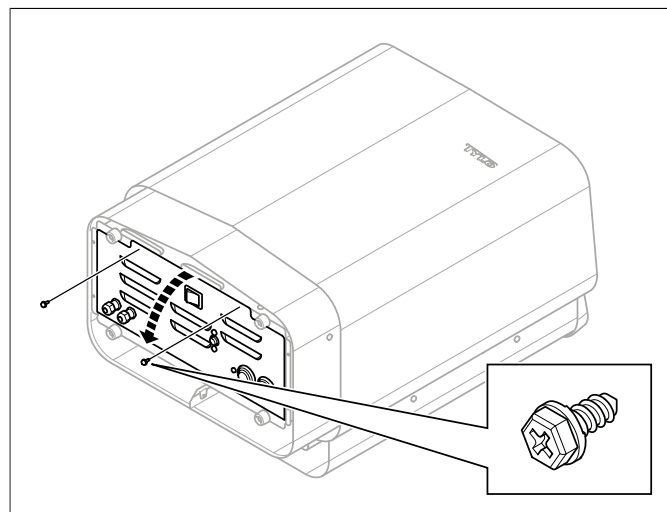

**Figure 8:** Opening/closing the cover
2. Slacken the screws and open the cover (see **Figure 8**, Page 4).
7. Close the cover and tighten the screws (see **Figure 8**, Page 4).